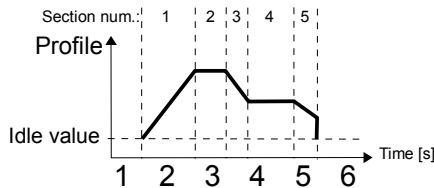

Fig. 7.102. Sample of Profile/timer
- **level (gate)** – this means that configured by user **Profile** is generated when source signal will have a value > 0 , otherwise (if source value ≤ 0) defined Profile will not be generated. See **Fig. 7.102** and example **a)** in **Fig. 7.103**,
- **edge (once)** – this means that configured by user **Profile** will be triggered by the rising edge (from values ≤ 0 to the value > 0) of source signal. After the rising edge the **Profile** will be generated in whole (once), regardless of further changes to the signal source, see **Fig. 7.102** and example **b)** in **Fig. 7.103**,
- **edge (re-triggering)** – this means that configured by user **Profile** will be triggered by the rising edge (from values ≤ 0 to the value > 0) of source signal. However, in this mode, unlike the **edge (once)** mode the defined **Profile** will be generated from the beginning every time when the **Triggering source** signal will generate an edge, whether that Profile had been completed or not. See **Fig. 7.102** and example **c)** in **Fig. 7.103**,
Fig. 7.103. Samples of **Profile** output waveforms defined in Fig. 7.102, triggered by signal selected in **Triggering source** parameter for **Triggering mode: level (gate), edge (once), edge (retrig.)**